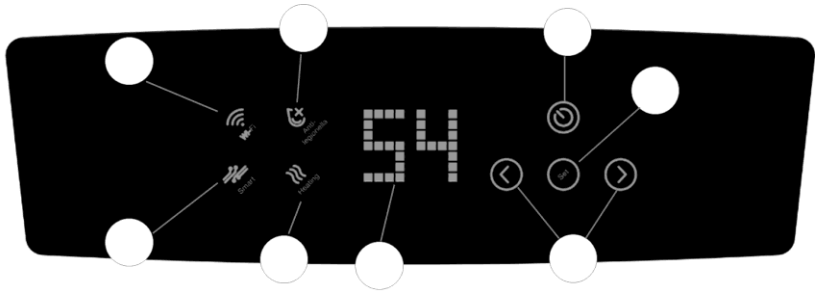

Figure 2. Electronic control panel
Figure 2: 1 – “” on/off button, 2 – “>/<” heating temperature increase/reduction button, 3 – “Set” mode selection button, 4 – heating temperature indicator, 5 – Wi-Fi connection indicator, 6 – “Anti-legionella” mode indicator, 7 – “Smart” mode indicator, 8 – heating indicator
EWH switching on/off is made by control panel button “” (Fig. 2, p.1).
When heating mode is activated (Fig. 2, p.8), the water heater heats the water to the set temperature. Once the desired temperature is reached, the system enters a heat preservation state. If the temperature drops by 8°C, the heater automatically resumes heating. In the course of EWH operation the user can regulate heating temperature using button “>/<” (Fig. 2, p.2). To adjust the temperature, press the “<” or “>” buttons.
- Adjustable temperature range: 30-75°C (Fig. 2, p.4).
“Set” button (Fig. 2, p.3):
- Short press – enable/disable “Anti-legionella” mode (Fig. 2, p.6).
- Long press (3 sec.) – enable/disable “Smart” mode (Fig. 2, p.7).
2. On water heater panel press and hold “⏻” on/off button for 3 seconds when power is on (Fig. 2, p.1). Appears Wi-Fi indication (Fig. 2, p.5).